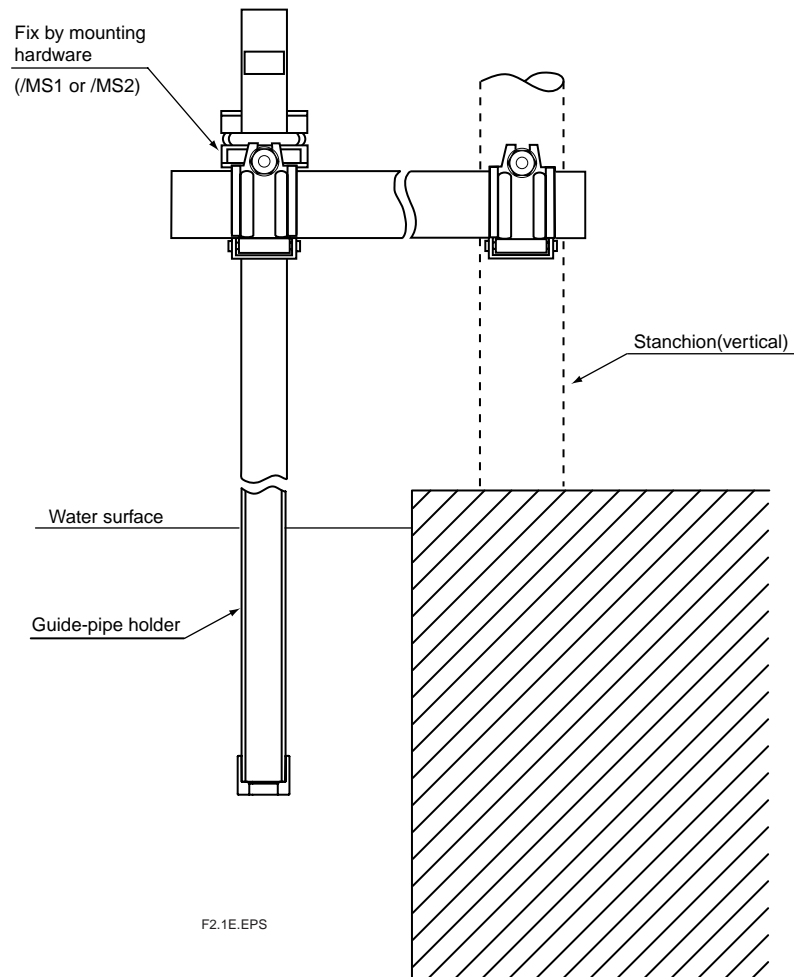

Fig. 2.1
- (1) Connect the ORP sensor cable to related equipments (refer to 2.3 for procedure)
- (2) Take the cap, which prevents the ORP sensor from drying out, off the tip of the sensor.
- (3) Install the PH10HG Guide-pipe holder as shown in figure.2.1.